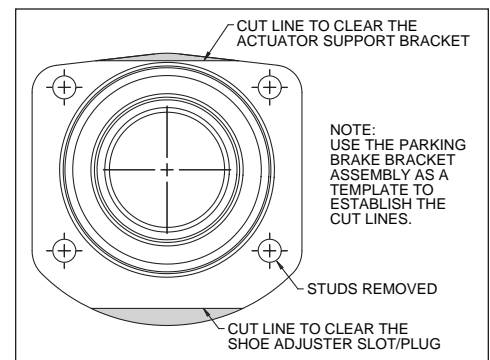

Figure 4. Bearing Retainer Modification
- The OEM bearing retainer requires minor modification, as shown in Figure 4, before installation of the new Wilwood bracket kit assembly (2).